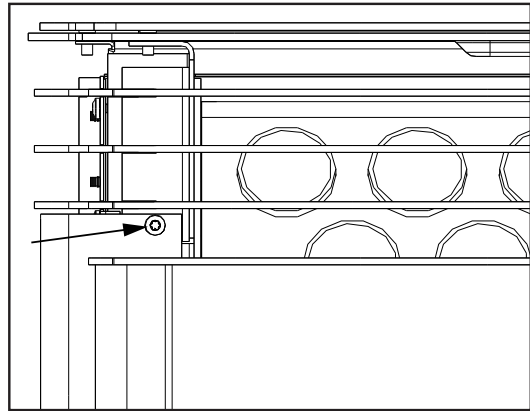
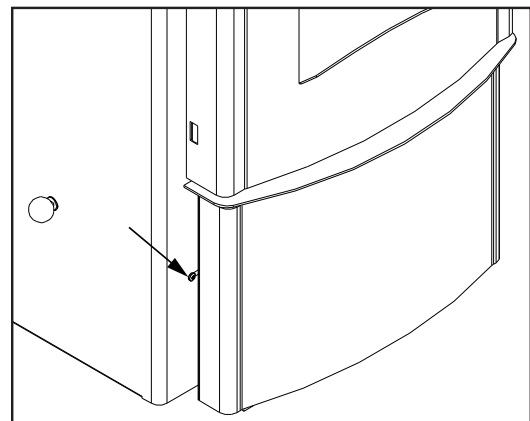
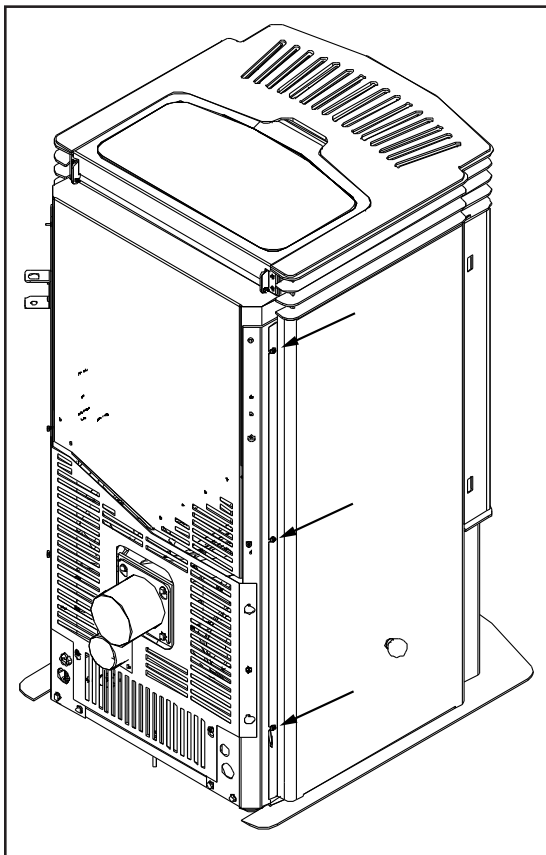

Figure 28: Screws above door top corner.
Figure 29: Screw behind ash box.
Figure 30: Screws at back of the cab side.
1. Remove the screws above the door on both sides (Figure 28).
2. Ensure the screws behind the ash box, one on each side (Figure 29) and the three (3) on each side at the back (Figure 30) are loosened.
3. Slide the three (3) slots at the back of the cab panels under the three (3) screws at the back.
2. Remove both cab panels. Remove the screws above the door on both sides (Figure 28) and ensure the screws behind the ash box, one on each side (Figure 29) and the three (3) on each panels at the back (Figure 30) are loosened. Slide the front of the cab panels out then slide the back of the cab panels out from under the three (3) screws at the back (Figure 30). Note: The slider knob will need to be removed if installed.